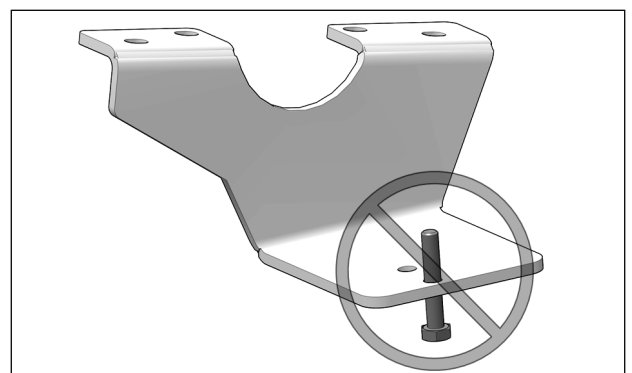

Fig. 4
**CAUTION:** Be sure that bolt is inserted in the right direction. See Fig. 4